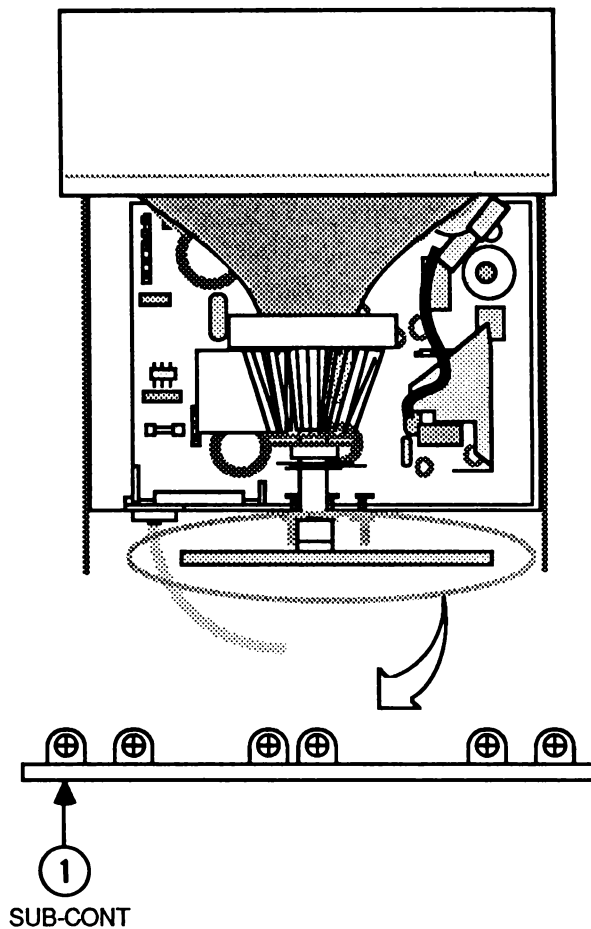
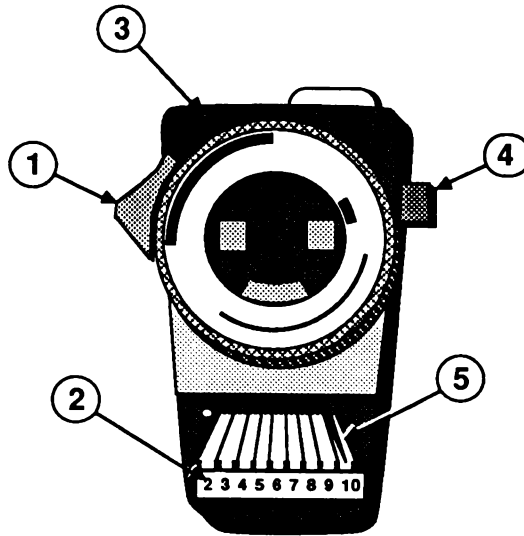

FIGURE 11
FIGURE 12
16. Use the light meter (Figure 12) to measure the luminance at the center of the screen, as follows:
- b) Move the side switch (Figure 12, #1) to its lower position so that the lower scale (Figure 12, #2) reads 2 through 10.
- c) Uncover the lens of the meter (Figure 12, #3). Place the lens against the exact center of the screen and press the "read" button (Figure 12, #4).
The lower scale reading should be precisely in the middle of "10" (Figure 12, #5). If it is not, adjust the SUB-CONT control (Figure 11, #1) until the luminance measures precisely in the middle of "10."